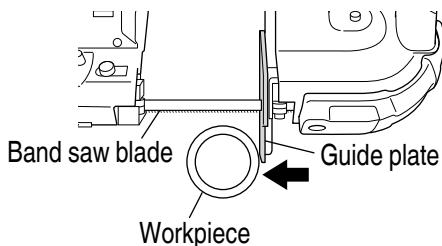

Fig. 18
- (4) Press the workpiece against the guide plate (**Fig. 18**)